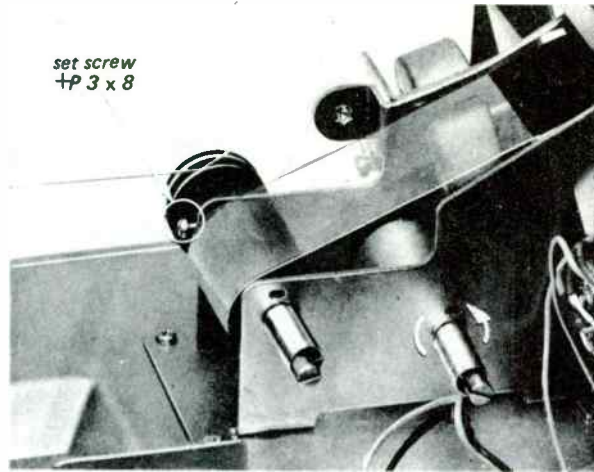
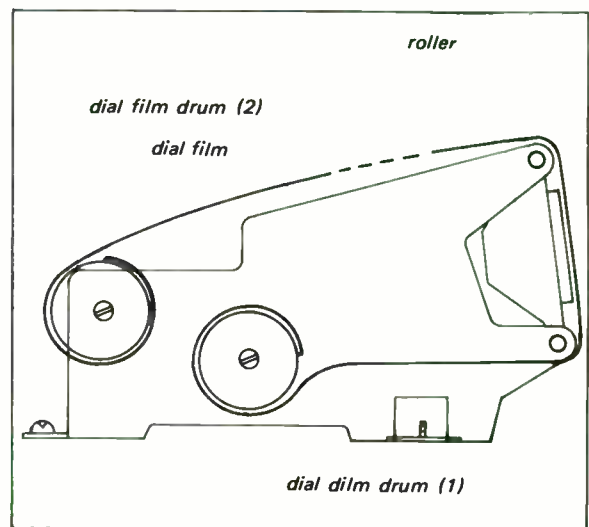

Fig. 2-16 Dial film drive drum set screw
Fig. 2-18 Complete dial film mechanism
2. Loosen the set screw (+P 3 X 8) of the dial-film drive drum so that the dial-film drive drum rotates freely. See Fig. 2-16.
5. While referring to Fig. 2-18, fix the low end of the dial film to the film drum (1) with double-coated tape.
6. Run the film over the green surface and rollers, then fix the other end to film drum (2). Do not tape over the hole for the set screw.
7. Roll up the film on film drum (1) and install the coil spring for film drum (1) on its shaft. See Fig. 2-16. Twist the coil spring one counterclockwise turn to give the dial film the proper tension.
8. Roll up the film on film drum (2) and install the coil spring on its shaft.